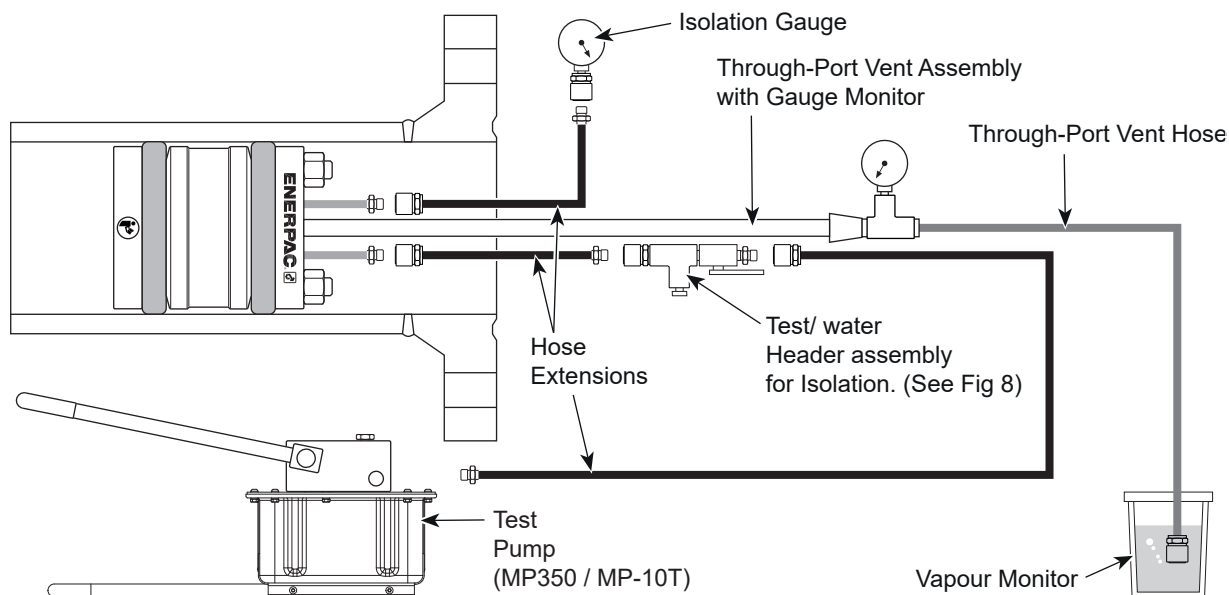
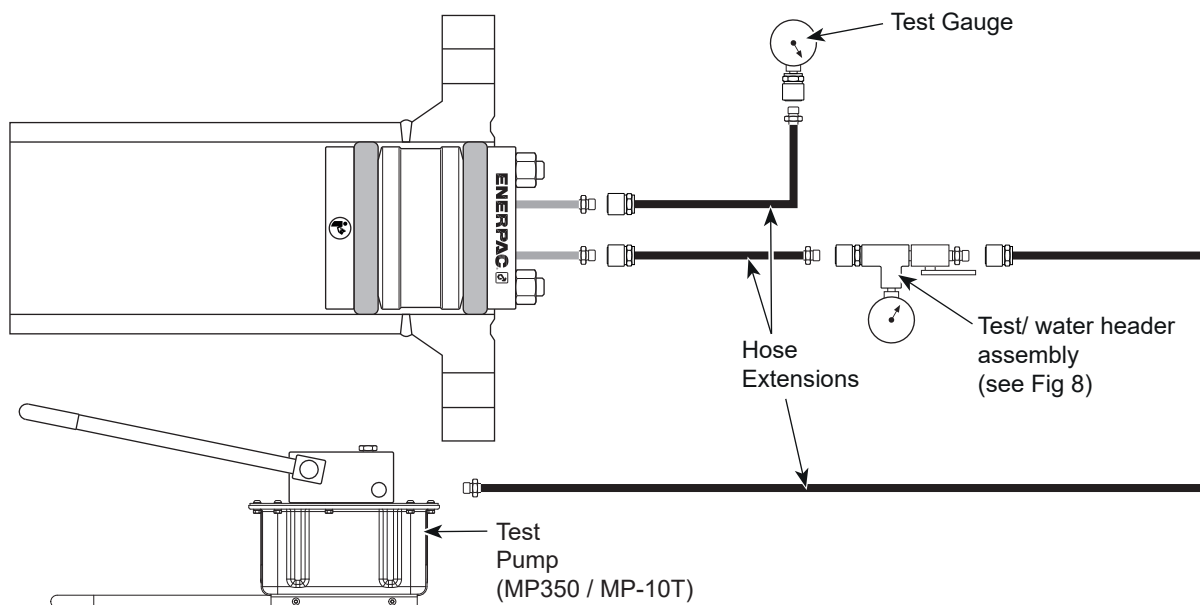

Figure 6: Isolation Arrangement
Figure 7: Test Arrangement
- Have an inline gauge connected to allow continuous pressure monitoring, see figure 6.
All subassemblies must be tightened as per Figure 6 and Figure 7 in accordance with standard hand tightening specifications. All threaded connections require Teflon tape or thread sealant.
To view the below assembly (DM1249900 with plug or DM1249900 with gauge) within the complete Isolation or Test Arrangement, see figures 6 and 7.